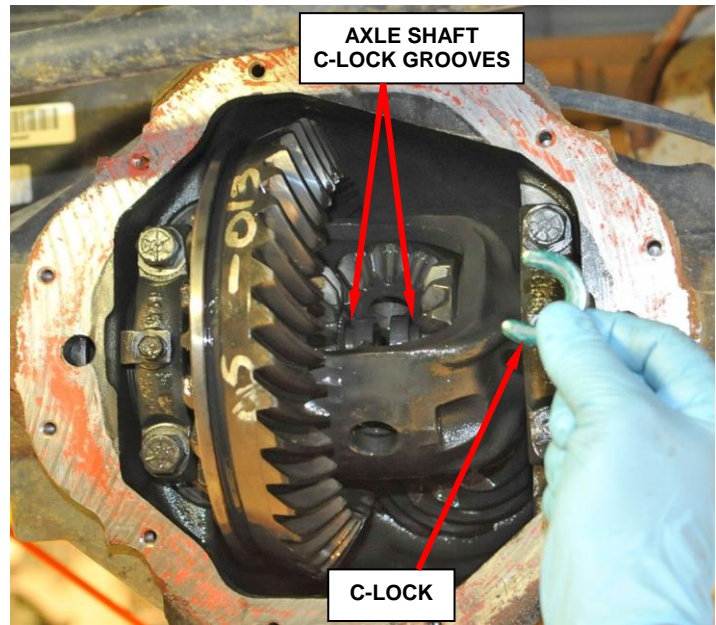

Figure 7 – Axle Shaft C-Locks
- d. Push the axle shafts inward and remove C-locks from the axle shafts (Figure 7).